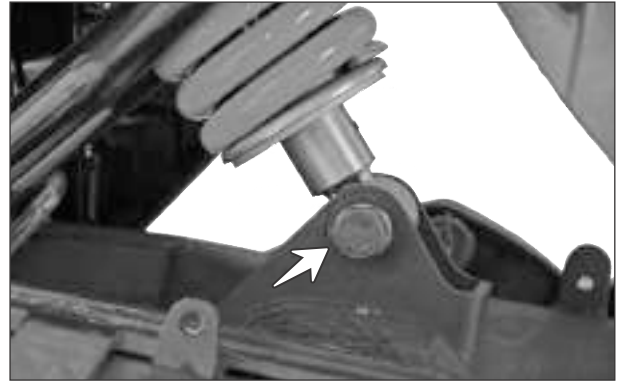

Fig. 6.141
- Remove hexagonal flange bolt (M12x55 - 1 no.) of shock absorber rear lower mounting from swing arm complete. (Fig. 6.141)